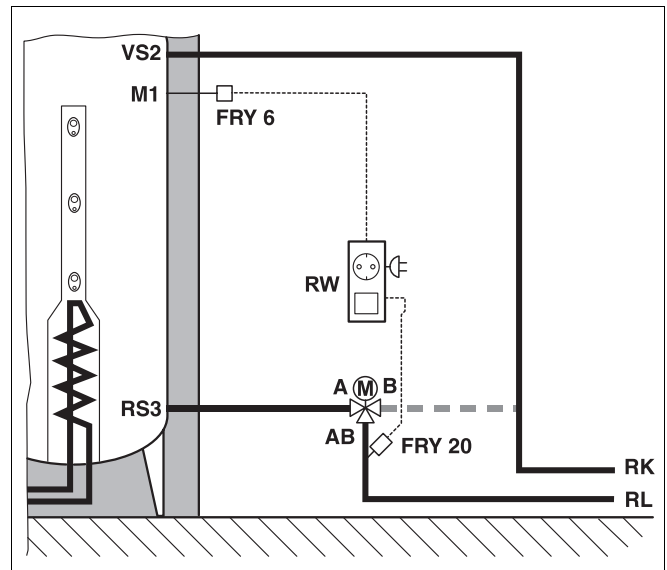
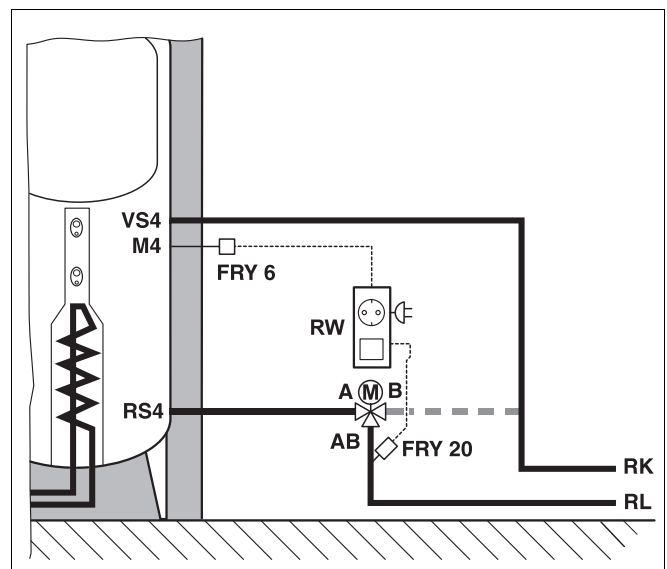

Fig. 3 Installation diagram – return temperature controller – buffer storage unit
Fig. 4 Installation diagram – return temperature controller – combination cylinder
- Install the motorised 3-way valve into the return line between the buffer storage unit (Fig. 3) or the combination cylinder (Fig. 4) and the boiler. Please observe the connection instructions on the motorised 3-way valve.
The short descriptions (Fig. 3 and Fig. 4) correspond to those in the installation instructions of each cylinder.
- Install the pipe contact sensor FRY 20 on the return pipe using the pipe cleat supplied – approx. 20 cm in front of the motorised 3-way valve (Fig. 3, Fig. 4, page 6).
- Install the cylinder sensor FRY 6 (Fig. 3, Fig. 4, page 6) in the appropriate location provided on the cylinder.